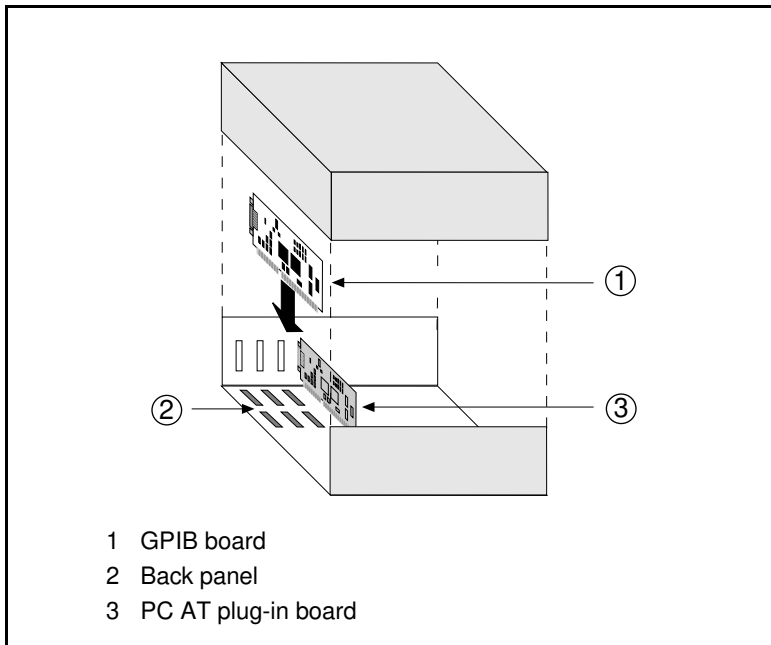

Figure 2-1. Installing the GPIB Board
6. Insert the GPIB board into any unused 16-bit ISA slot with the GPIB connector sticking out of the opening on the back panel, as shown in Figure 2-1. It might be a tight fit, but do not force the board into place. You can install the AT-GPIB/TNT in an 8-bit slot, if necessary. When you use an 8-bit slot, you must disable DMA and use only interrupt request lines 3, 4, 5, 6, or 7.